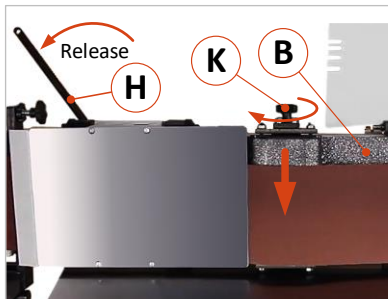

Figure 22: Insert sanding pad
- Switch off the main switch (1) and secure it by locking it.
- Loosen the handle screw (25) and pull the table top (11) backward (away from the sanding belt).
- Release the tension of the sanding belt with the tension lever (H).
- For easier working and a better overview, the two veneer fences (7) and (4) should be in the raised position and secured against falling down by means of locking springs (S). Beforehand, position the table downwards so that the two veneer fences can be opened.
- Then push the sanding pad between the loose sanding belt and the flat sanding belt back (B) from above into the sanding device (see ⇨ Figure 22) → To do this, insert the centring pin (Z) of the machine into the receptacle (A) on the sanding pad.
- After the sanding pad has been correctly inserted, fix it in place with the clamping wheel (K).
- Then fold down the two veneer fences (7) and (4) again by unlocking them first with the locking spring (S) → Make sure that the sanding belt is not crushed during this process.
- Place the table top (11) as close as possible to the sanding belt and fix it with the handle screw (25).